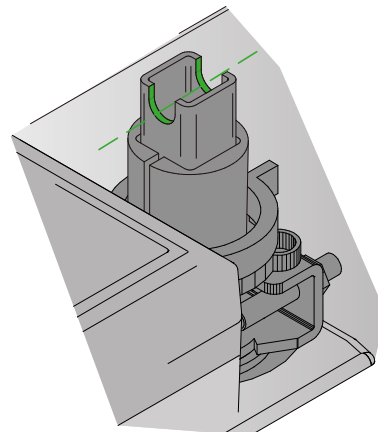

Figure 12. Recess in the damper spindle indicates the position of the damper.
- Note: Positioning of damper blade and locking strip, see figures 12 and 13.